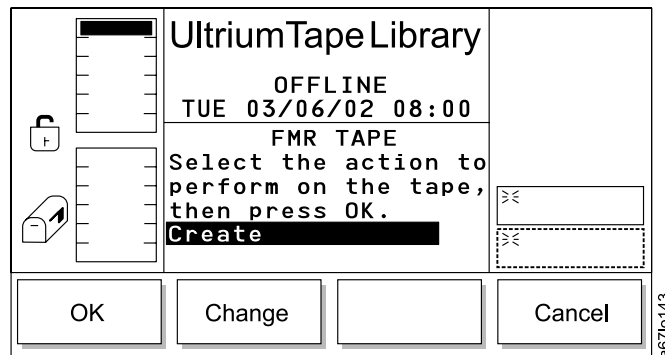

Figure 193. FMR Tape Dialog
- If **FMR Tape** is selected, the FMR Tape Dialog displays (see Figure 193 on page 149).